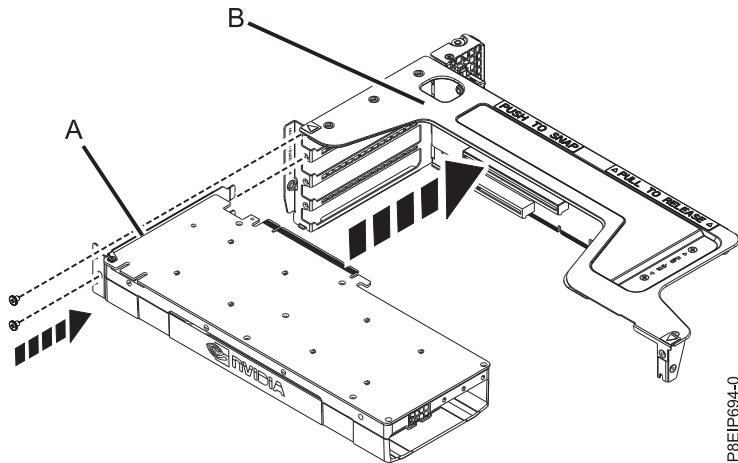

Figure 16. Inserting the GPU into the PCIe adapter riser
- a. Retract the retaining pin (A) so the arrow is pointing to the system.
- e. Plug the GPU (A) into the PCIe adapter riser (B) as shown in Figure 16.